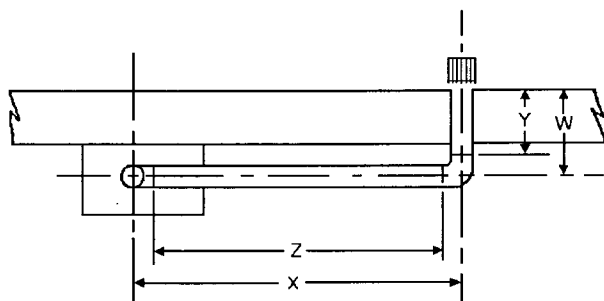

Fig.17
5.5.24 Measure carefully the distance between the centre of the flue bend on the boiler to the centre of the hole through the wall (dimension X fig. 17).
- 5.5.31 Ensure that the flue pipe runs parallel to the wall then carefully measure the distance from the outside face of the wall to the centre of the extra bend (dimension W Fig. 17).